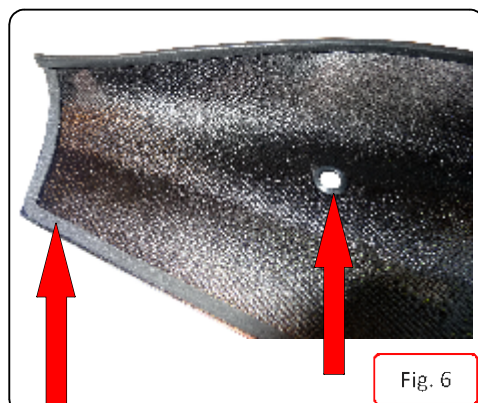
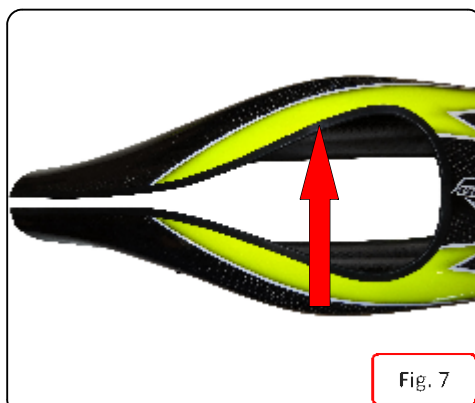

Fig. 6
Fig. 7
- Canopy edge protection, Adhesive foam tape, Canopy grommets. (**Fig.6**)(**Fig.7**).